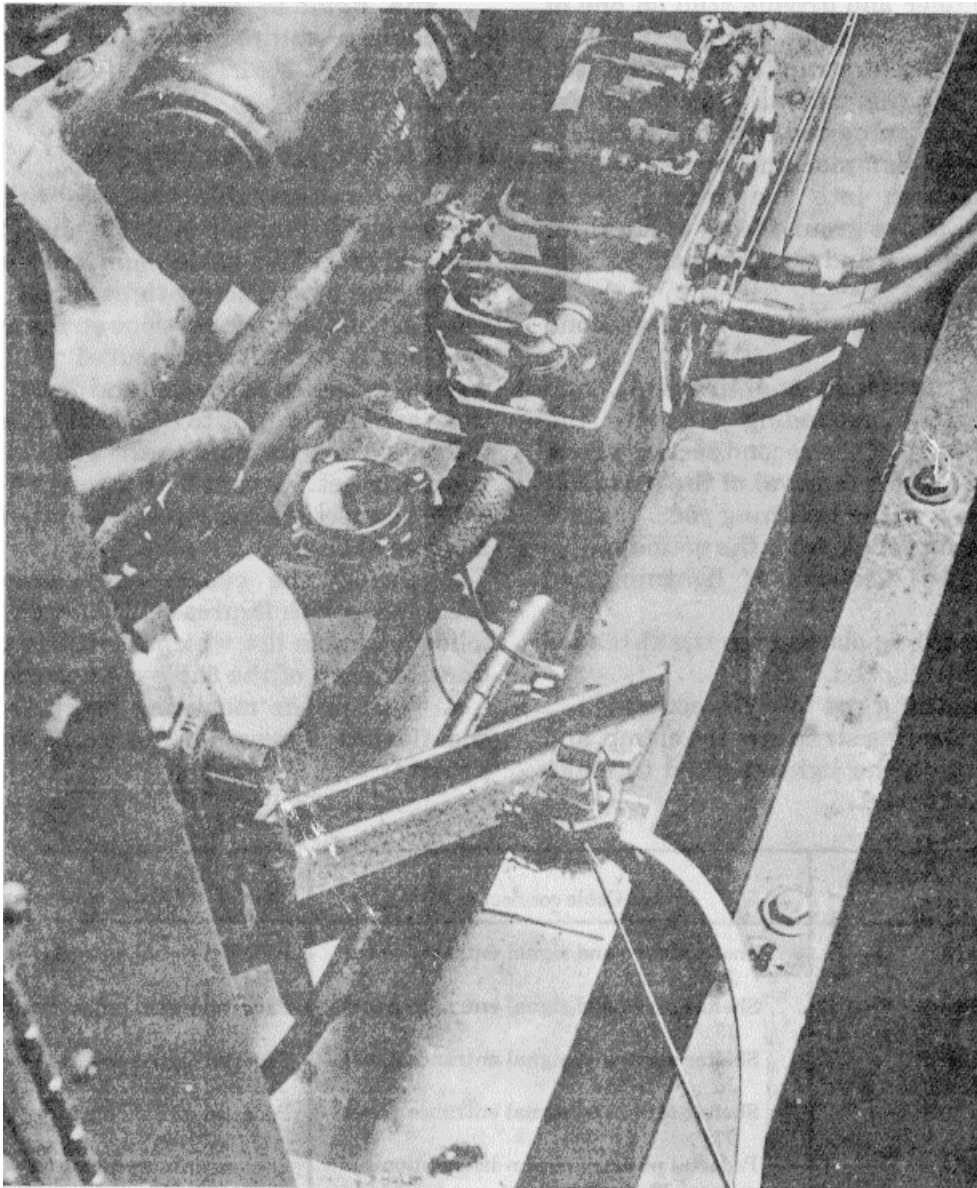

Figure 2-11. Typical generator set ground terminal connections.
c. Attach the grounding strap to the ground stud on the generator set (fig. 2-11) to indicate an arc within which the lightning rod may be driven.